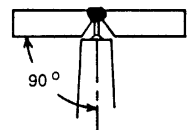

Figure 2.2
3. The electrode should be positioned at a 90° work angle and a 10° to 15° push angle to perform the weld. (See Figure 2.2 and 2.3.)